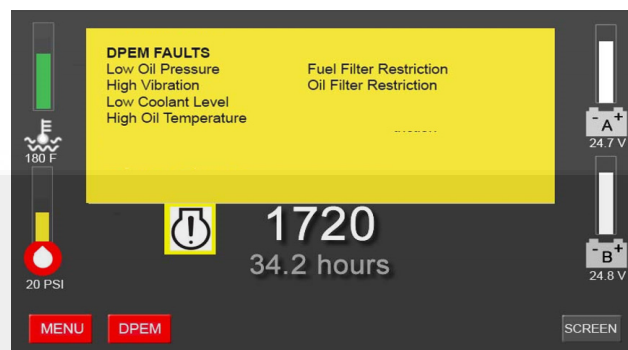

Figure 2-6 DPEM Fault Screen (Sample)
- **From the FPDP** - As shown in Figure 2-6, the warning symbol will illuminate and the overlay will activate in yellow with the text of the active fault.